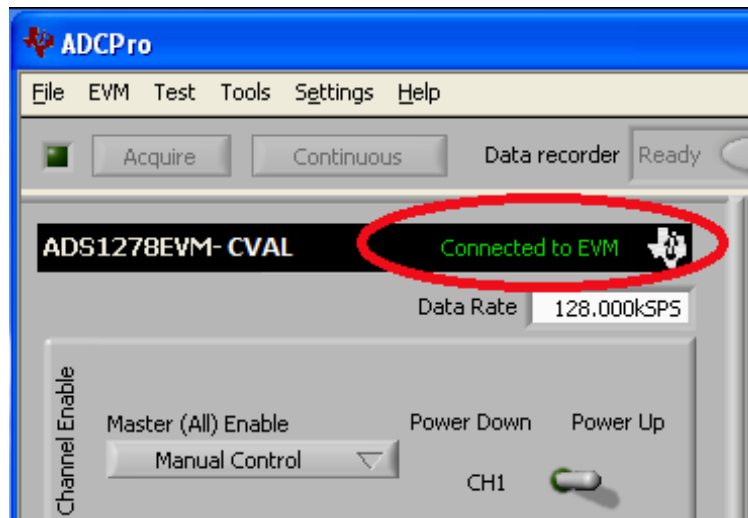

Figure 4. Connected to EVM Status
- Verify that the plug-in loaded correctly by observing that the black box at the top of the plug-in screen reads “Connected to EVM” as shown in Figure 4.